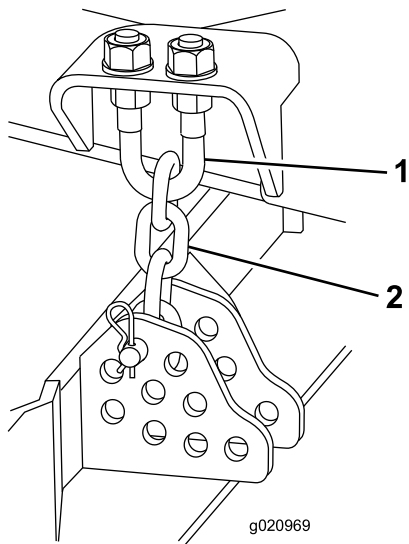

Figure 90
4. Remove the hairpin cotter and clevis pin securing the height-of-cut chains to the rear of the cutting unit (Figure 90).